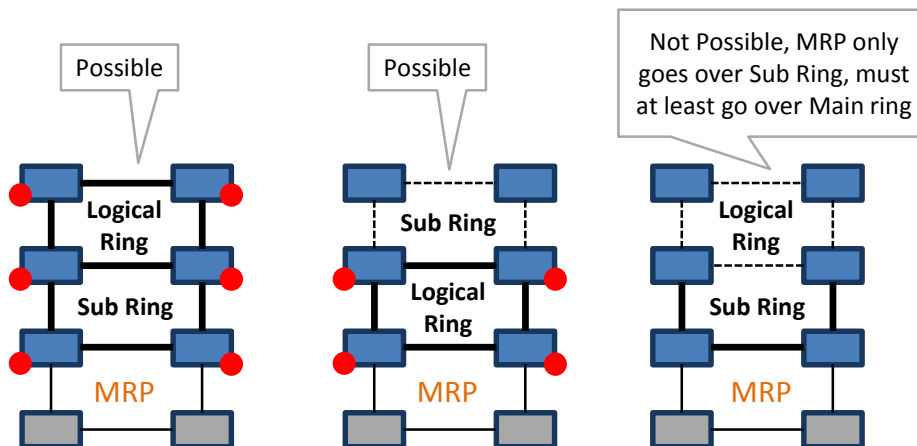

Figure 108 Involved Node: Flush VFI
- ▶ Review: Involved Nodes: A data service node that is also positioned in the used tunnels of the MRP service. When a topology change occurs in the MRP ring, the VFIs of the involved services in that involved node will be flushed (see also Figure 108). This topology change has no impact on the other VFIs in that node.